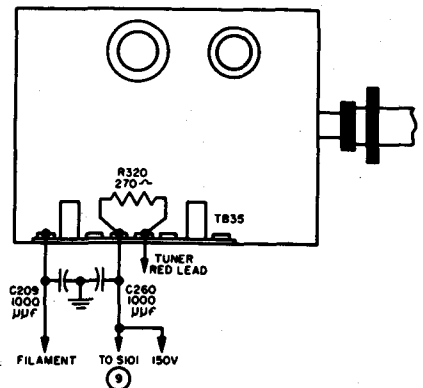

Fig. 58 — Dumont
**Preventing regeneration on uhf models (see Fig. 58).**